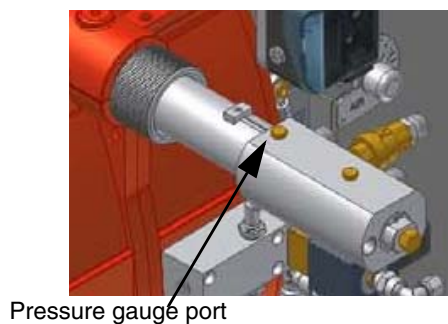

Fig. 18
- 9 the nozzle supply pressure is already factory-set and must not be changed. Only if necessary, adjust the supply pressure as follows (see related paragraph); insert a pressure gauge into the port shown on Fig. 18 and act on on the pump adjusting screw **VR** (see Fig. 17) as to get the nozzle pressure at 25bar (Fluidics nozzles - see diagram on page 18).